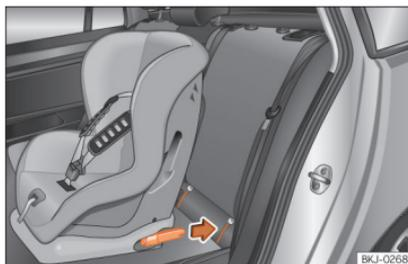

Fig. 27 Rear seats: fitting a child seat with the ISOFIX system.
- Press the child seat onto the “ISOFIX/i-Size” retaining rings until the child seat is heard to engage securely » **Fig. 27.** If the child seat is